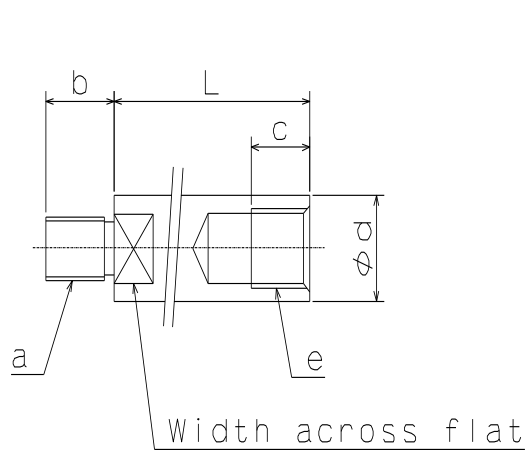

Fig.14
The dimension L in Fig.14 is determined from the distance A between the cylinder adaptor and the back plate.
- Keep the dimension d and the dimension e in Fig. 14 for the draw bar and a material with the tensile strength 380MPa (38kgf/mm²) or more must be used.